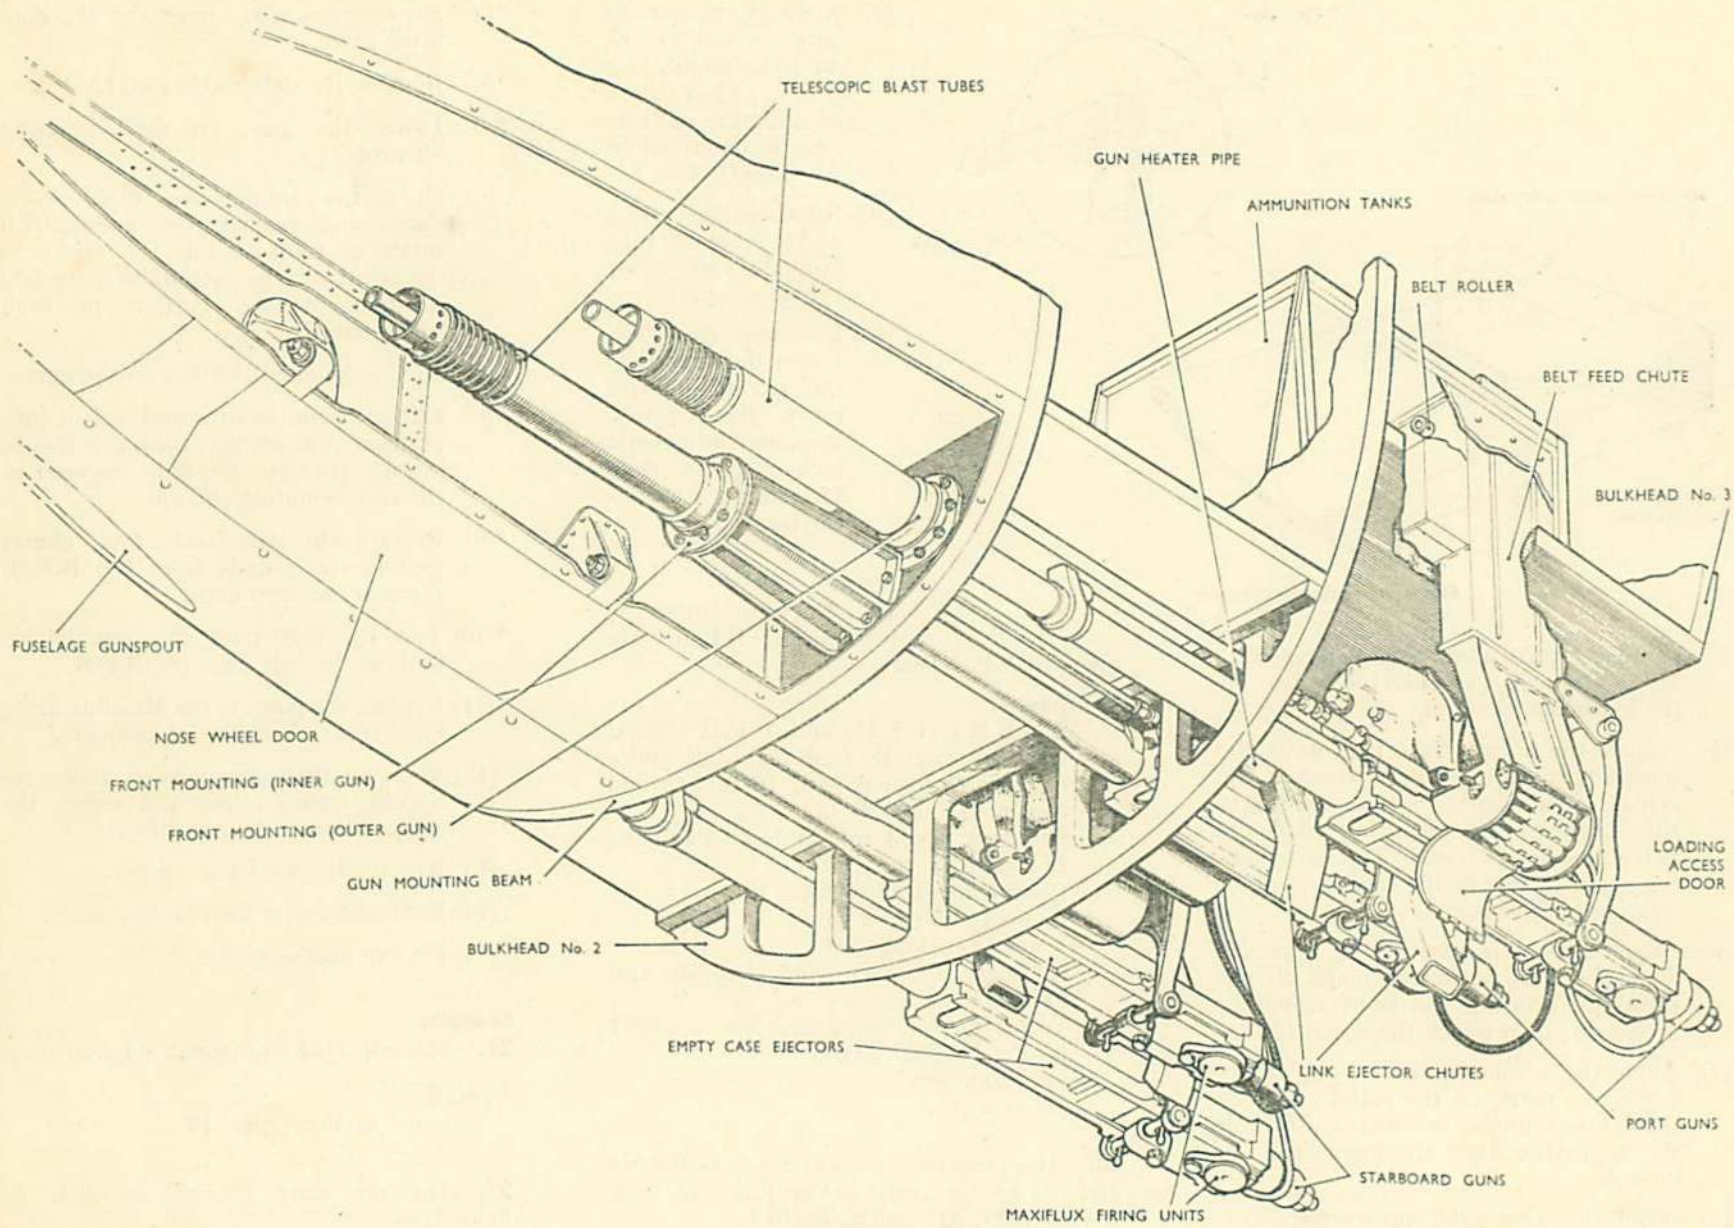

Fig. 5. Gun installation
10. The Martin Baker telescopic-type blast tubes (fig. 5), are fitted over the gun barrels between the front mountings and the spout fairings. The tubes are secured to the front mountings by worm-type clips, the forward telescopic portions being held against the spout fairings by springs.